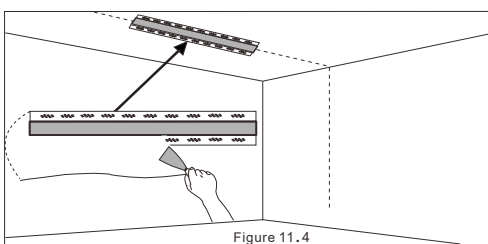

Figure 11.4
4. Perform grey work on the side area of the track belt and the ceiling or wall to cover the edge of the track; (See Figure 11.4)